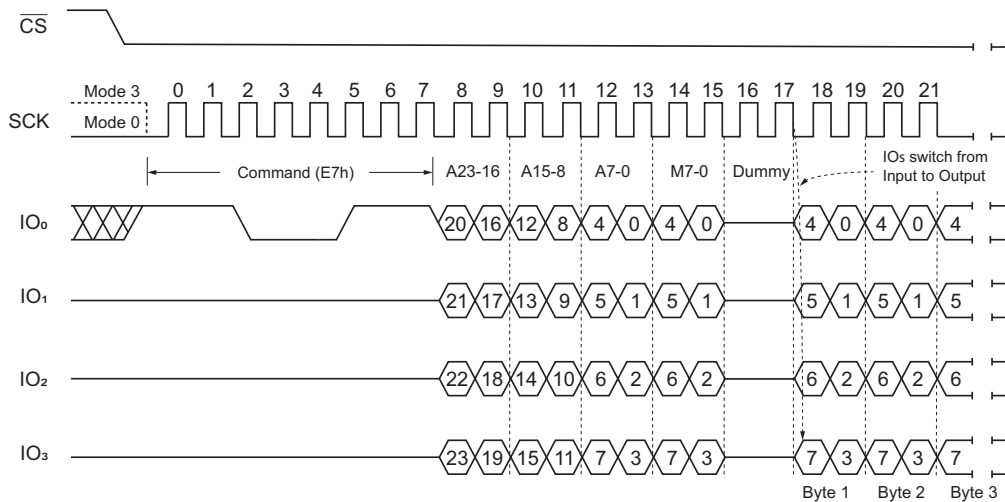

Figure 51. Word Read Quad I/O Command (Initial command or previous set M7-0 ≠ Ah, SPI Mode)
The Word Read Quad I/O command can further reduce command overhead through setting the Continuous Read Mode bits (M7-0) after the input Address bits (A23-0), as shown in Figure 51. The upper nibble of the (M7-4) controls the length of the next Word Read Quad I/O command through the inclusion or exclusion of the first byte command code. The lower nibble bits of the (M[3:0]) are don't care (X). However, the IO pins are going to be high-impedance prior to the falling edge of the first data out clock.